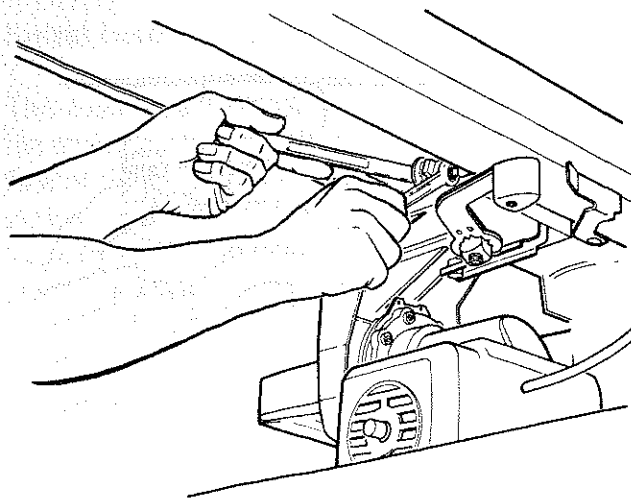

Fig. 127 - Location of the Hex Nut
2. To adjust the bearing, use a 9/16 inch wrench to hold the bolt head while using a 1/2 inch wrench to loosen the hex nut. (Figure 127)